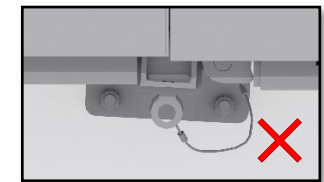
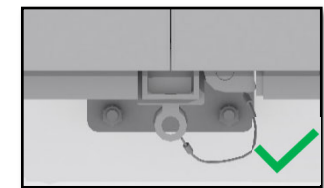

Fig. 25 – Decks NOT inline
Fig. 27 – Decks inline
9.1.7.8 **Important:** Ensure that the deck edges are inline. Use the Paving maul to manipulate the substructure and decks. Failure to do this shall result in tolerance difficulties later on. *Fig. 25 – Decks NOT inline & Fig. 27 – Decks inline*
9.1.8.8 **Important:** Ensure that the deck edges are inline. Use the Paving maul to manipulate the substructure and decks. Failure to do this shall result in tolerance difficulties later on. *Fig. 25 – Decks NOT inline & Fig. 27 – Decks inline*